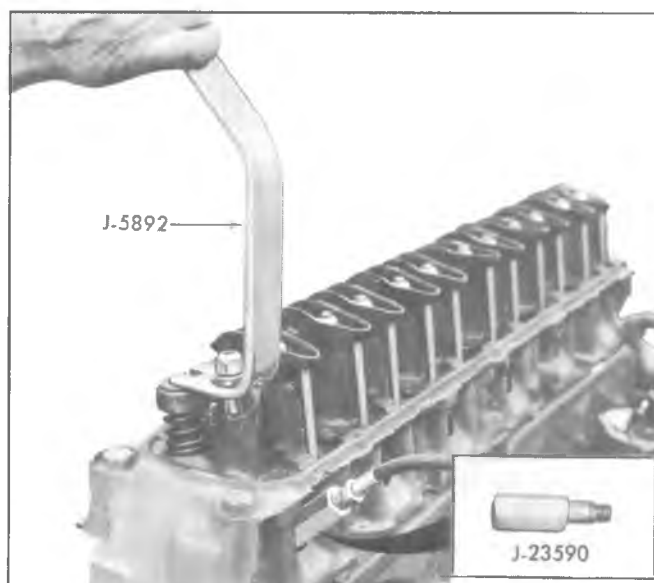

Fig. 3L—Compressing Valve Spring
4. Using Tool J-5892 to compress the valve spring, remove the valve locks, valve cap, valve shield and valve spring and damper (fig. 3L).